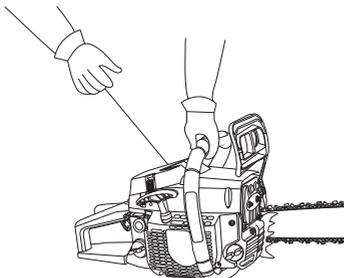

Fig. 9
- Place the unit on a firm, flat surface. Crouch into the starting position and hold the unit firmly, as shown (Fig. 9). Grip the front handle with your left hand. Place your right foot through the rear handle/boot loop.